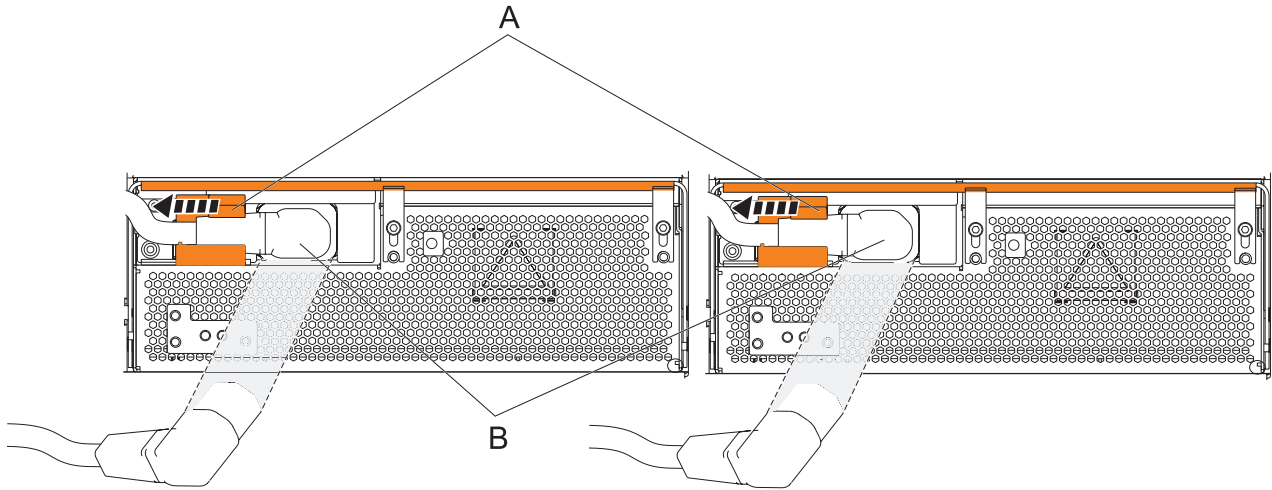

Figure 67. Disconnecting the OCA power cords
- a. Slide the power cord holders **(A)** to the left, located on the front of both the OCAs. See Figure 67 on page 88.